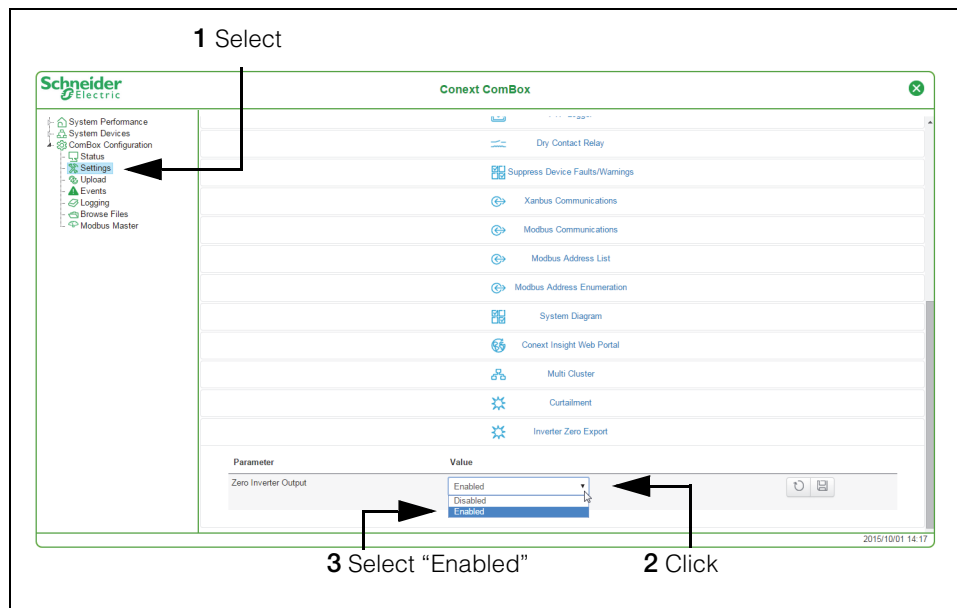

Figure 3-4 Zero Export Configuration
3. The **Inverter Zero Export** must be **Enabled** from the **Zero Inverter Output** parameter on the ComBox Web User Interface. See Figure 3-4, “Zero Export Configuration” on page 3–33.